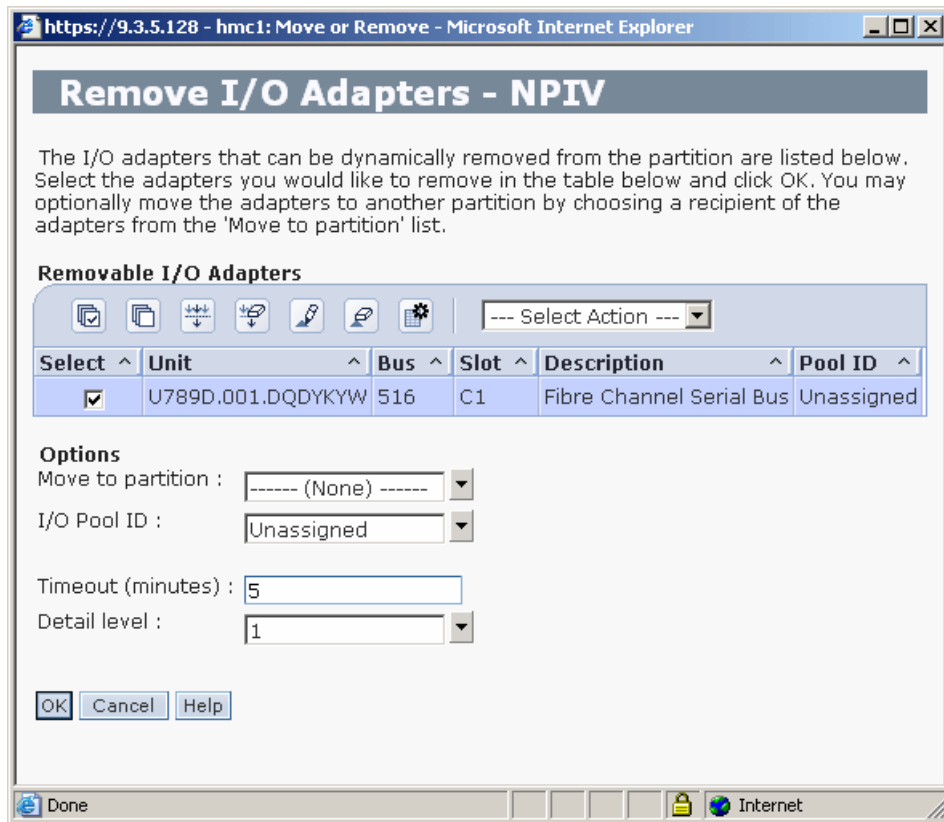

Figure 2-51 Select adapter to be removed
26. Select the physical adapter which you want to remove from the list and click **OK**, as shown in Figure 2-51.